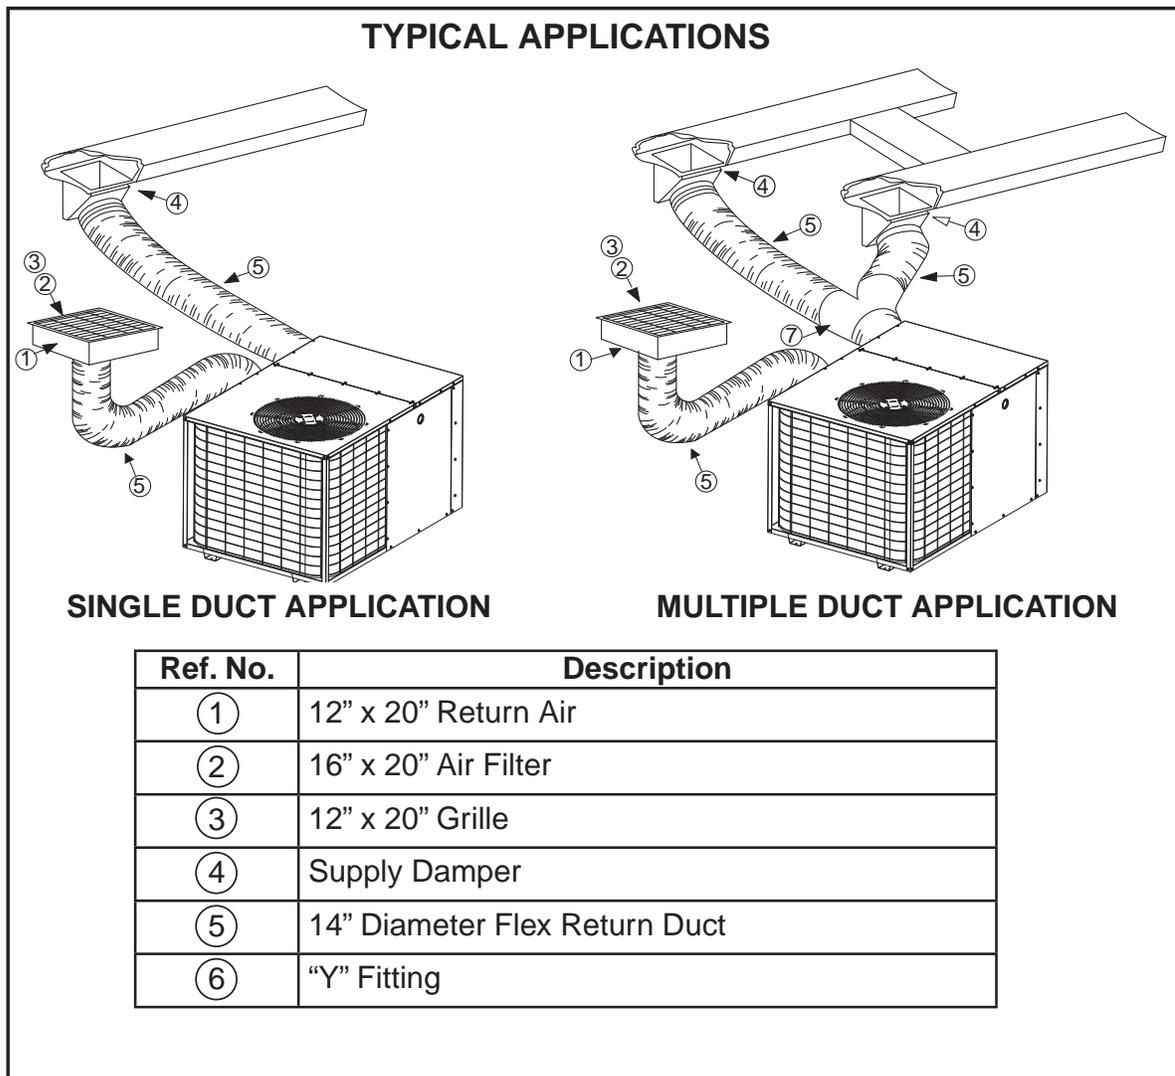

Figure 10. Typical Applications
3. Connect the cable leads to the sub base or thermostat terminals and to the unit's low voltage pigtails as shown in **Figure 10**. A system wiring diagram is also provided on the inside of the control panel cover.